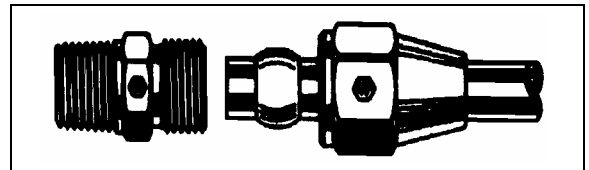

FIGURE 53: HOSE FITTING
**AB-Type Copper Piping:** Hand tighten nut (Fig. 53). From that point, tighten with a wrench the number of turns indicated in the following chart.